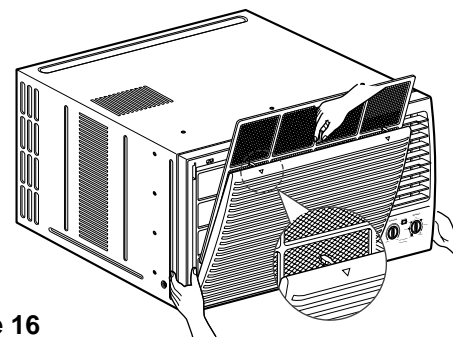

Figure 16
4. Remove the front grille. (See Fig. 16)